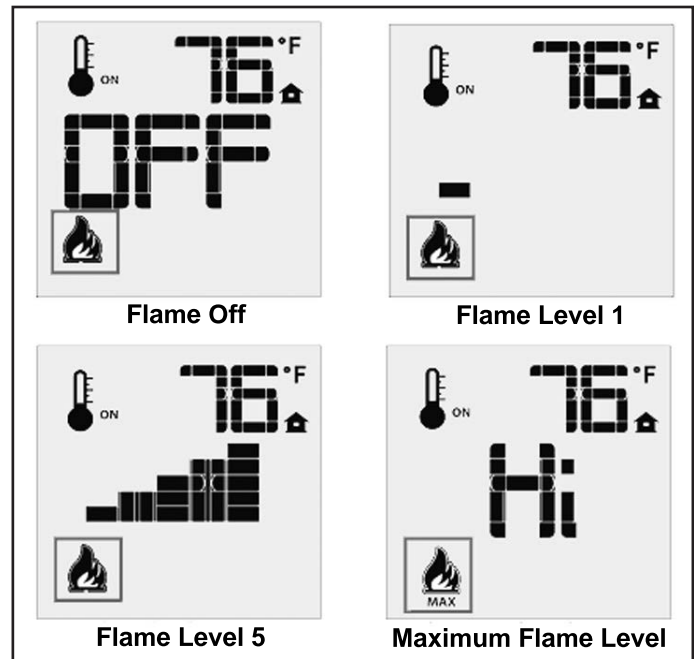

Figure 12: Remote Control's Flame Levels.
The Proflame 2 GTMF has six (6) flame levels. With the system on, and the flame level at the maximum in the appliance, pressing the Down Arrow Key once will reduce the flame height by one step until the flame is turned off. The Up Arrow Key will increase the flame height each time it is pressed. If the Up Arrow Key is pressed while the system is on but the flame is off, the flame will come on in the high position (refer to Figure 12). A single "beep" will confirm reception of the command.